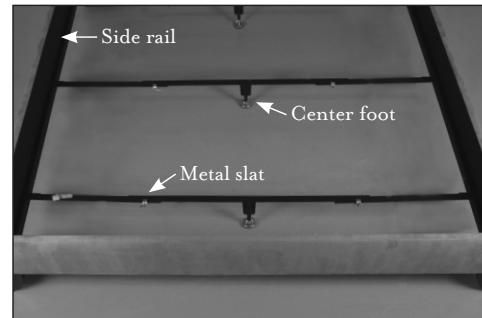

FIGURE 4
STEP 5: Screw the metal slats to the side rail supports using the 6 screws provided. Adjust the center feet as needed—these may need to be at different heights if the floor is not level. See FIGURE 4 for assembled frame example.